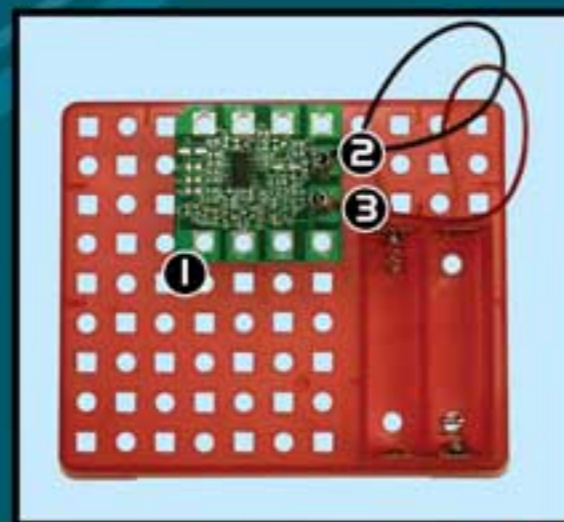

Fig. 2
- Place the Micro controller board (2) on the base plate (1). Install two spring connectors (6) into the holes (VSS1,VCC1) by pushing the narrow end down, as far as they will go, as shown in Fig. 2. Connect the red and black battery wires to the corresponding spring connectors by bending the spring over to create a gap into which the metal wire is inserted, as shown: